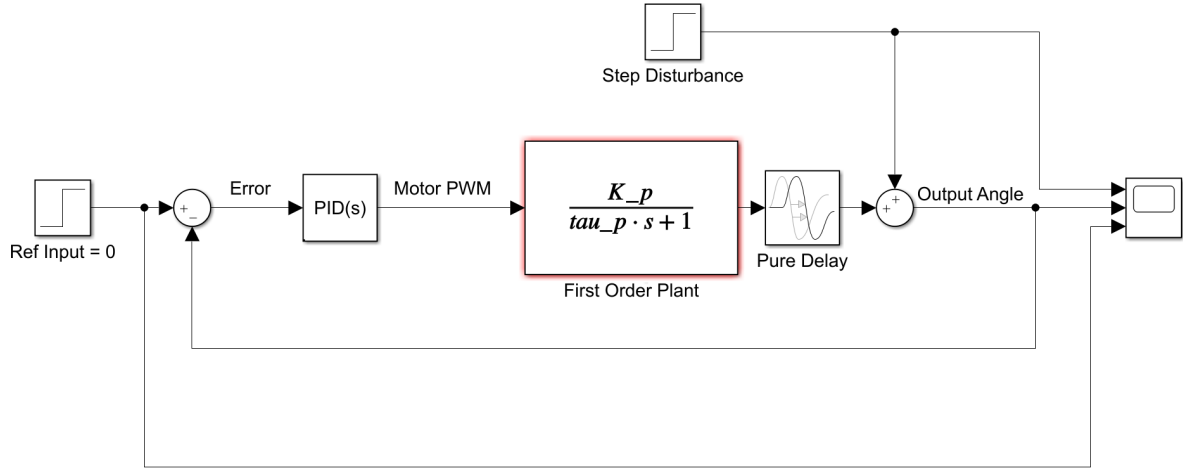

Figure 4: A Simulink Model for the Expected Overdamped System
- Initial consideration on system modelling via Bump Test were discussed. A simulink model was drawn for the expected overdamped system with pure delay. The model can be seen from the *Figure 4*.